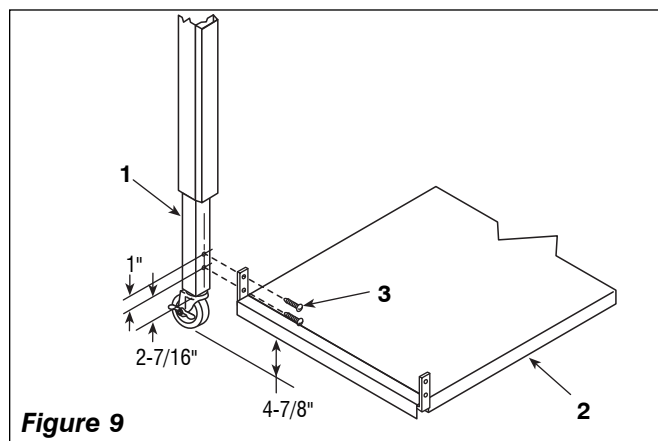

Figure 9
(Refer to Fig. 9)
2. Measure 2-7/16" from the bottom of the lower leg assembly. Center and drill a .199" diameter pilot hole (No. 8 Drill) into the lower leg assembly (1) as shown. A 13/64" (.203 dia.) drill may be substituted for the No.8 drill bit if one is not available. (Fig. 9)
3. Measure up 1" from the previously drilled hole or measure 3-7/16" from the bottom of the lower leg assembly (1) and drill a second .199 diameter hole as illustrated. (Fig. 9)
5. Note, there should be approximately 4-7/8" clearance from the floor to the under side of the shelf at all four corners. (Fig. 9)
6. Slide the shelf assembly (2) between the legs and align the shelf stretcher bracket holes with the two .199" diameter pilot holes previously drilled into each leg. (Fig. 9)
7. Secure the shelf to each of the four lower leg assemblies using two No.14 x 1" pan head screws (3). (Fig. 9)